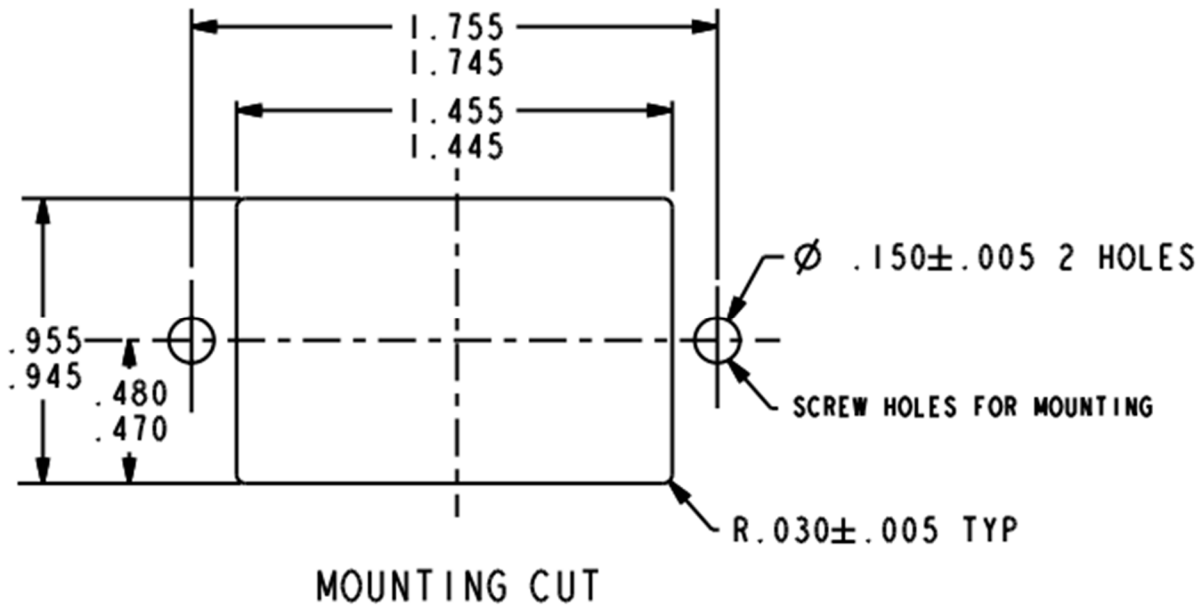

Figure 1 – Hour Meter Mounting Hole
2. Cut panel for Second Hour Meter in accordance with Figure 1. Install the Second Hour Meter (P/N: LH-HH3AS-H21) into the mounting hole.